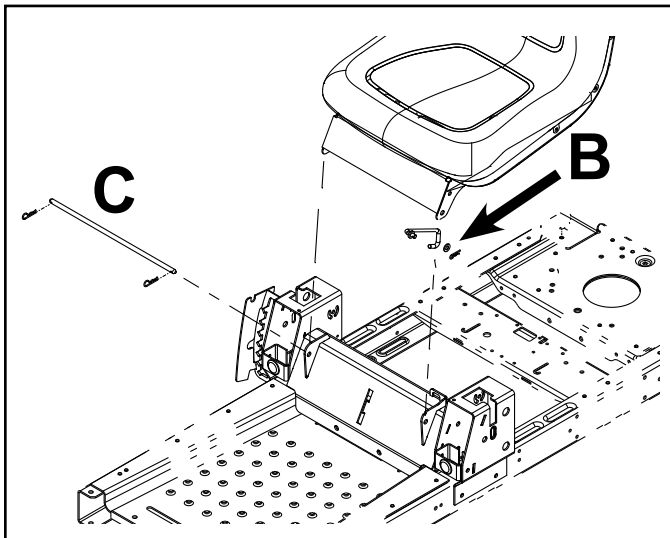

Fig. 016
3. Remove the washer and retaining clip, then remove the seat stop assembly (B).
4. Remove the retaining clips and the seat pivot rod / seat stop rod (C).
5. Remove the seat assembly from the unit (Fig. 016).